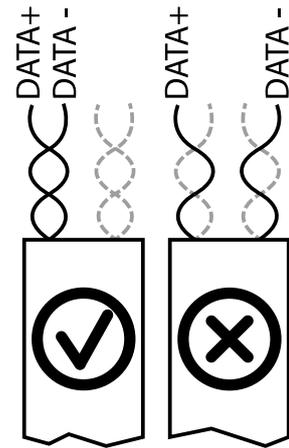

Figure 19: RS485 bus: Assignment of twisted-pair wires
- Observe the wire pairing when connecting DATA+ and DATA- (see Figure 19)